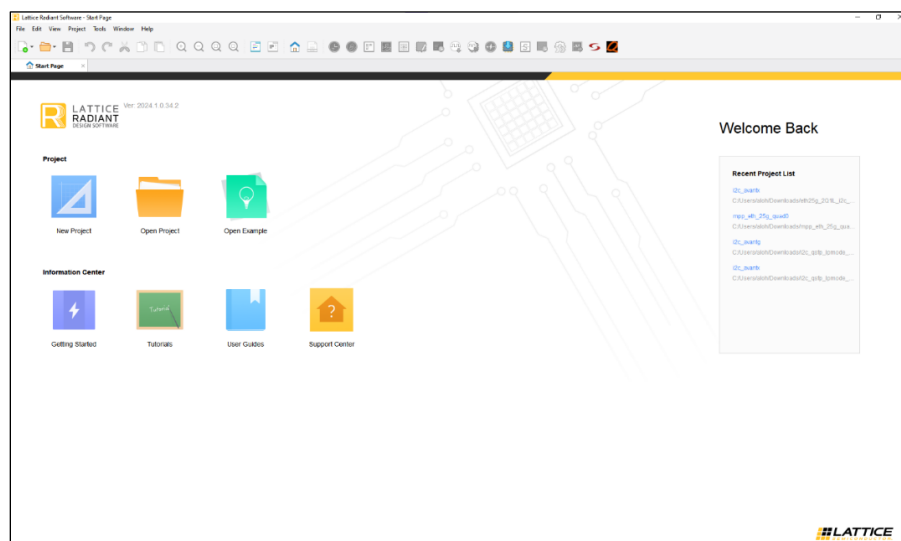

Figure 5.3. Lattice Radiant Software
1. Launch the Lattice Radiant software, as shown in Figure 5.3. Note that the project is compiled using the Lattice Radiant software version 2025.1.0.39.0